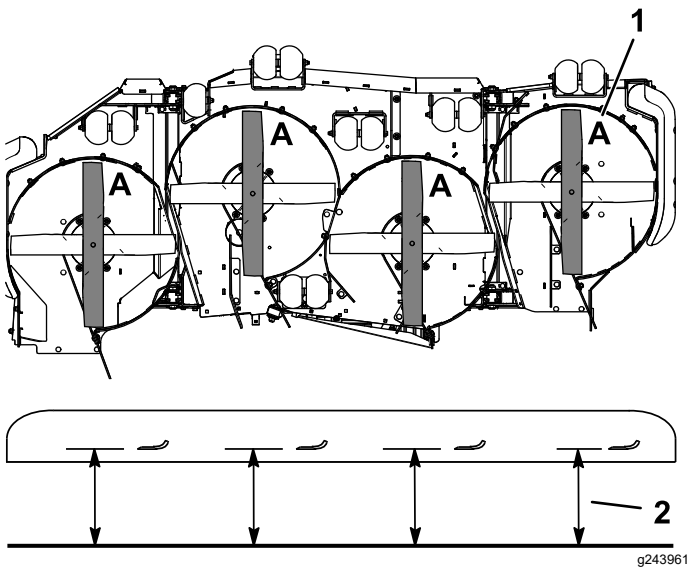

Figure 77
3. Rotate the blades until the ends face forward and backward (Figure 77).
4. Measure from a level surface to the cutting edge, position A, of the blades (Figure 77).